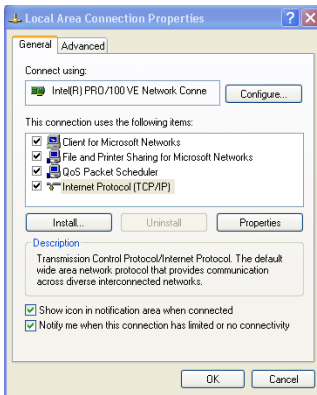

Figure 23: Local Area Connection Properties Window
5. Select the Internet Protocol (TCP/IP) and click the **Properties** Button (see Figure 23).